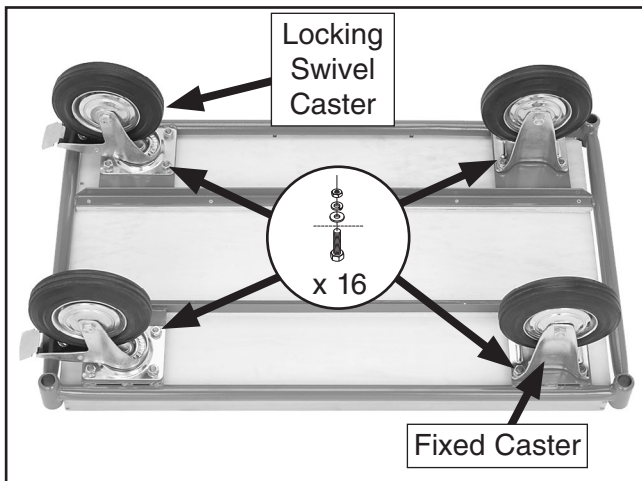

Figure 4. Casters installed.
2. Install the locking swivel casters on one end and the fixed casters on the other end onto the fixed hex bolts and secure with the fasteners removed in **Step 1**, as shown in **Figure 4**.